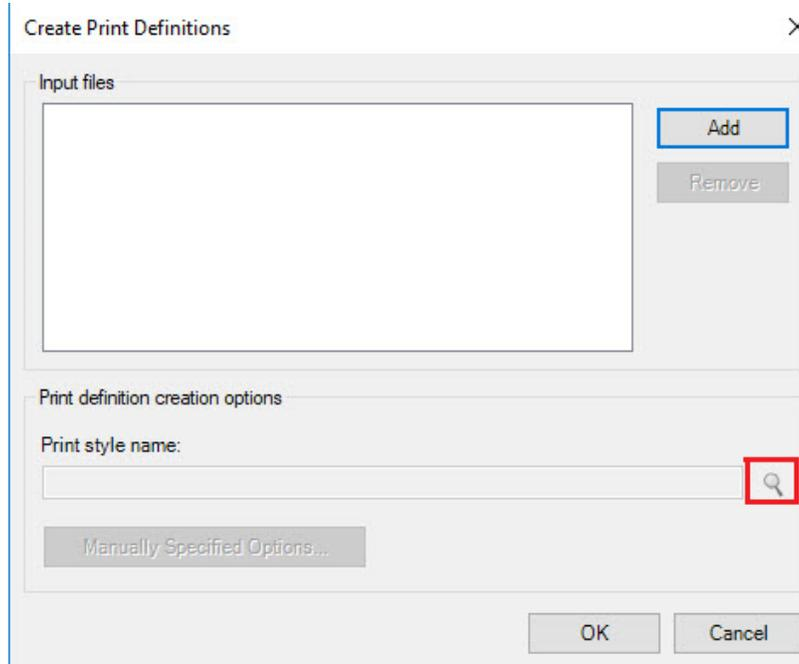

Figure 23 "Print Style Name"
Step 5. Next, select the magnifier to the right of Print Style Name (Figure 23 below)